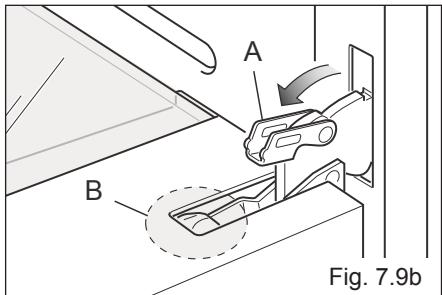
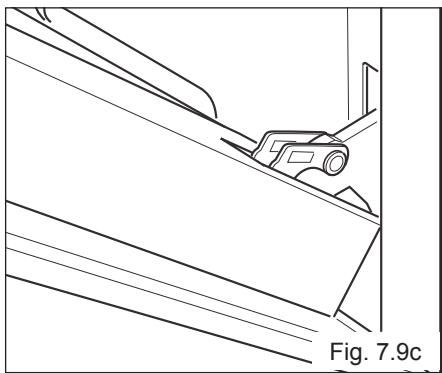

Fig. 7.9b
Fig. 7.9c
- Open the lever "A" completely on the left and right hinges (fig. 7.9b).
- Gently close the door (fig. 7.9c) until left and right hinge levers "A" are hooked to part "B" of the door (fig. 7.9b).